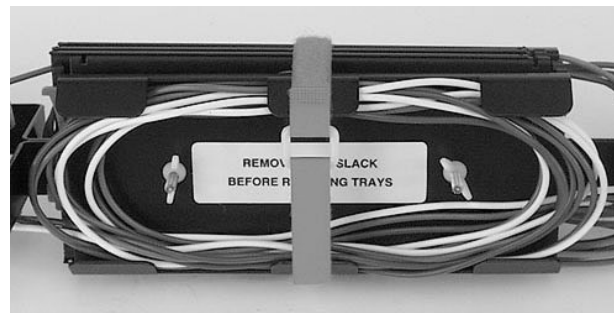

Figure 18
- Step 5:** Secure all components using the provided hook-and-loop strap (Figure 18).